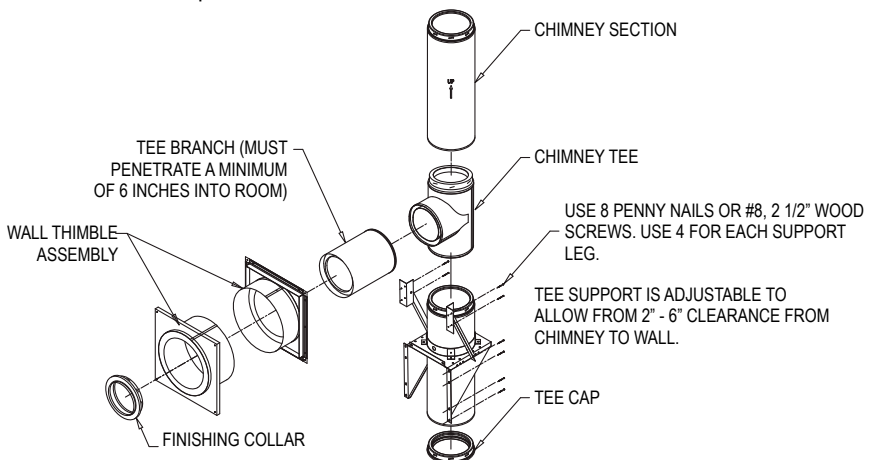
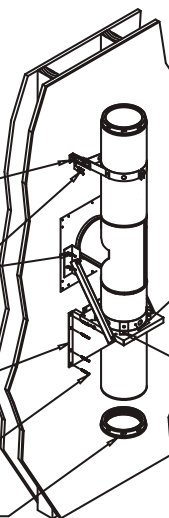

Figure 24
Figure 26
4. Install Tee Support: Install the Tee Support on the outside wall. Position Tee Support so that the chimney Tee will be centered inside the Wall Thimble (**Figs 24, 25, & 26**). The Tee Support may be installed either above the Tee or below the Tee (within one pipe section), as seen
in **Figure 26**. The Tee Support can support up to 50-feet of chimney by itself, or up to 70-feet of chimney if the Tee Support Straps are used (**Fig 24, 26**). Important: Verify that Tee Support is level, and secure the leg brackets of the Tee Support to the wall using (4) #8, 2-1/2" screws for each side. Slide support base over leg brackets to adjust for desired clearance to wall, and secure by tightening bolts. (**Figs 26 & 27**).
Section: Twist lock the Tee onto a desired length of Chimney to be used as the cleanout section. Use only one chimney section (any length) to attach to bottom of the Tee. Tighten support band around chimney section at proper height to insure that Tee is centered through Wall Thimble (**Fig 25 & 26**). Use the 1/2" sheet metal screws provided to insure a tight connection between support band and chimney section. Connect support band to support base using the 1/2" sheet metal screws provided (**Fig 26**). Twist lock Tee Cap into bottom of Chimney Cleanout section.